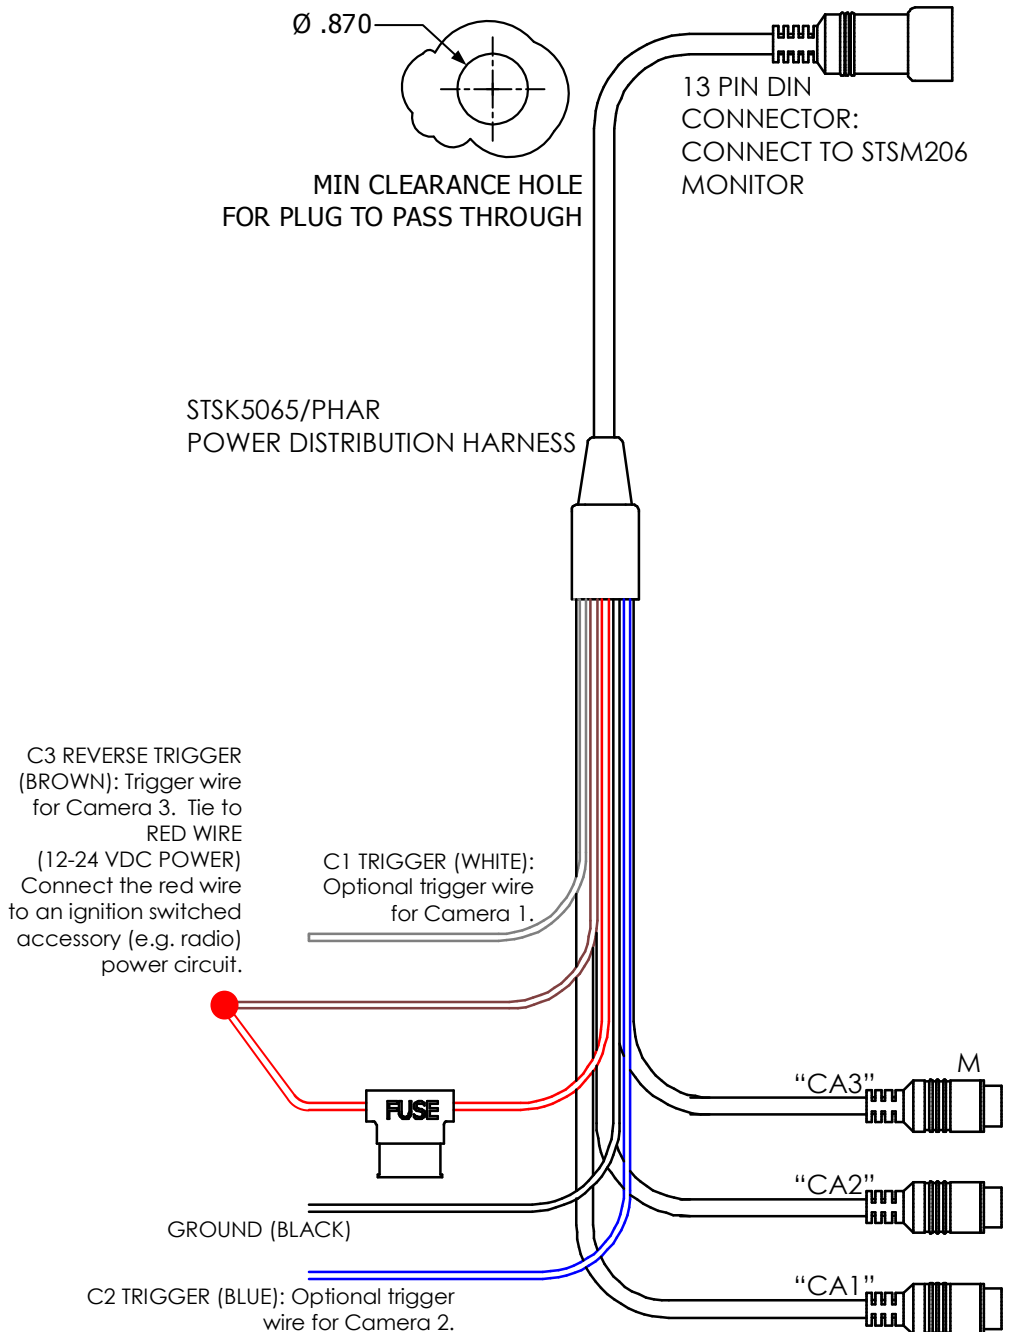
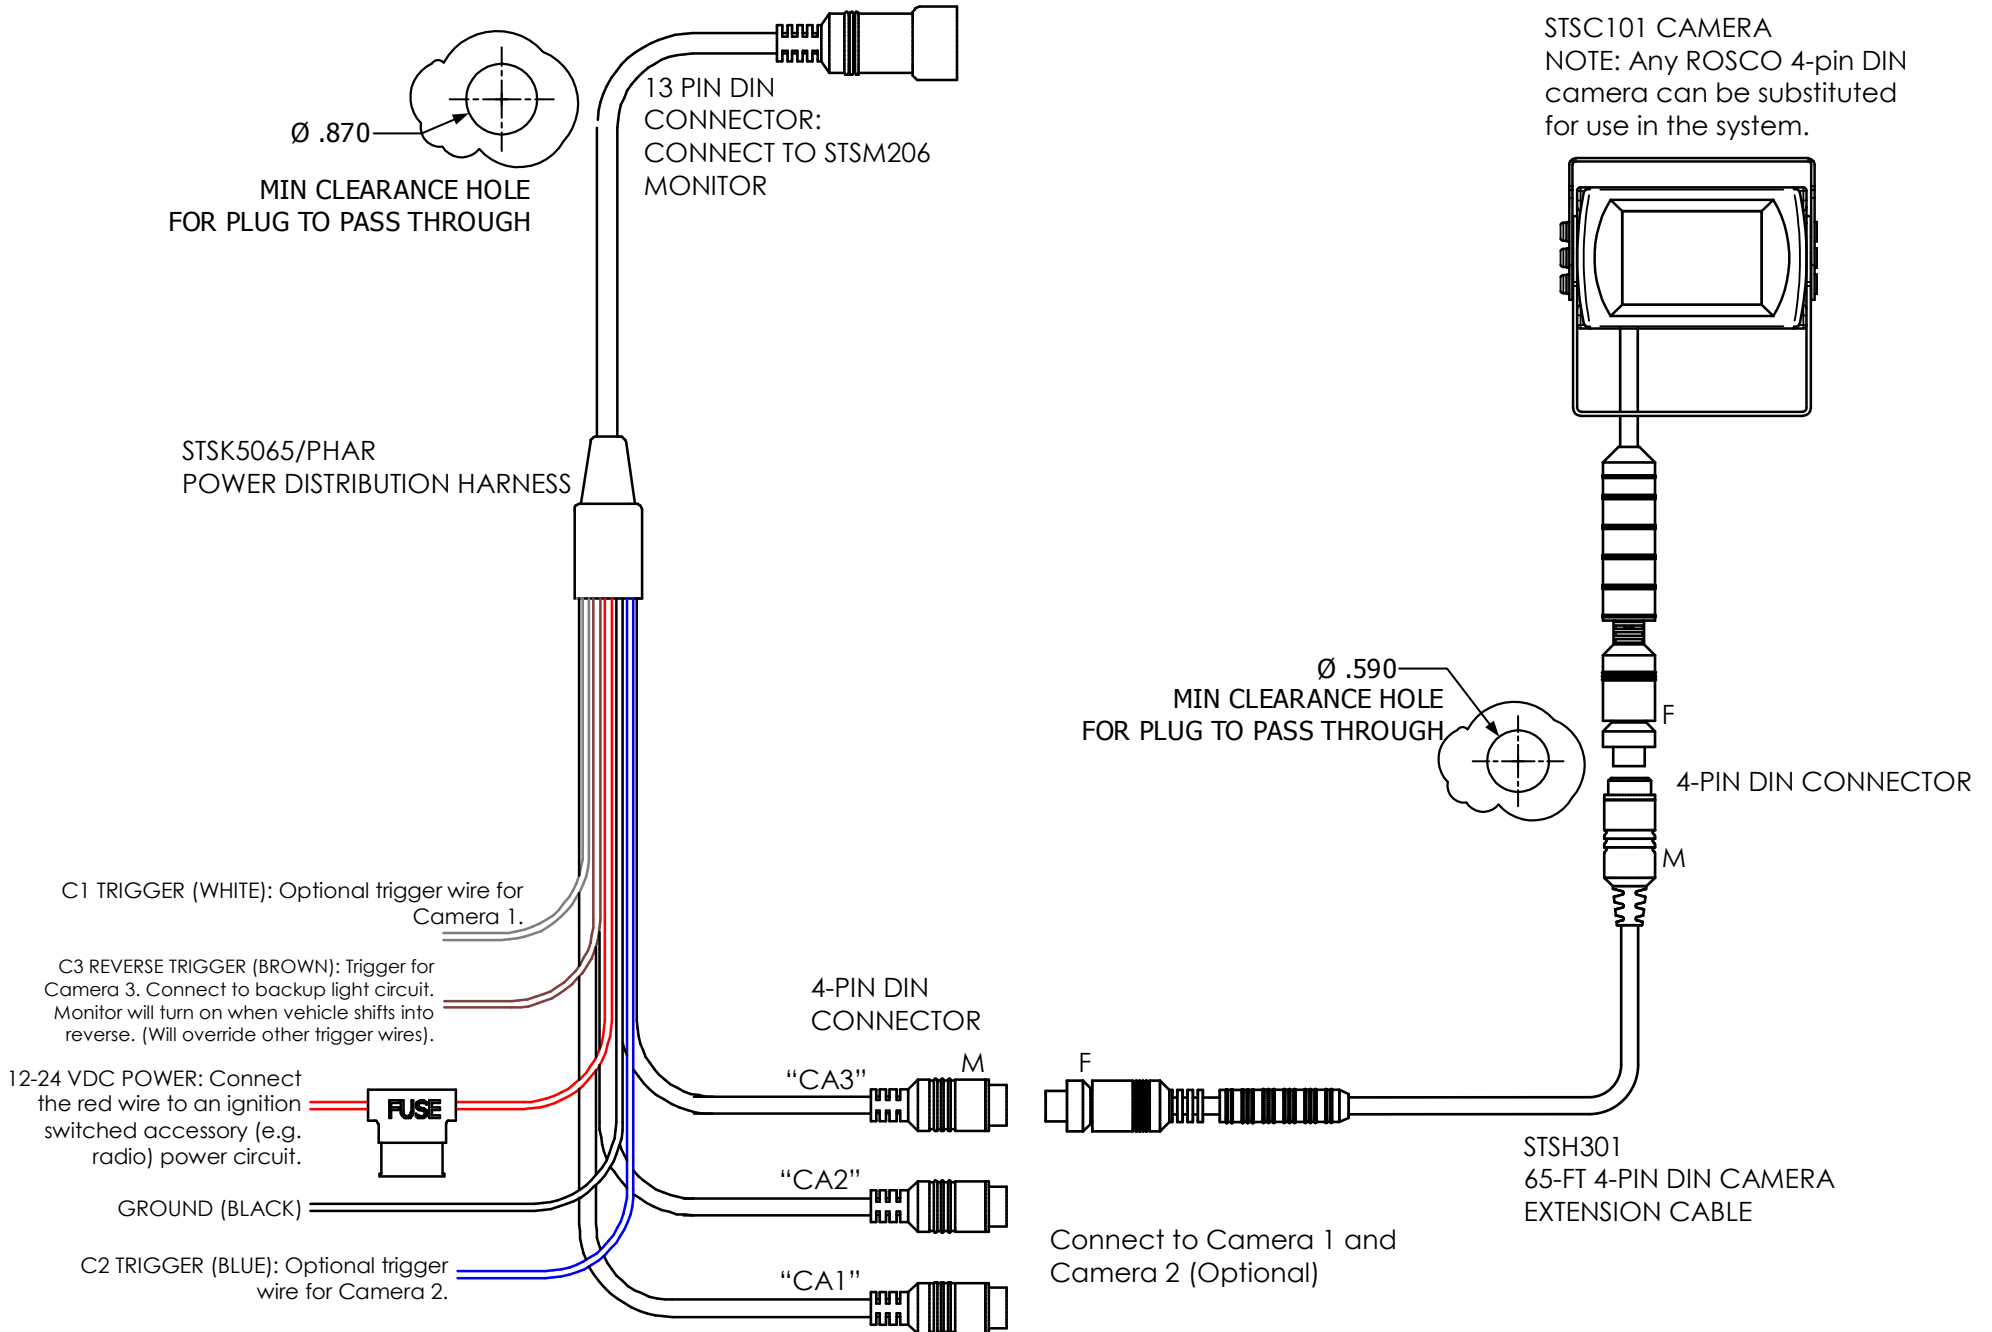

FIGURE 6: CABLE HARNESS CONNECTIONS
FIGURE 5: CABLE HARNESS CONNECTIONS FOR STANDARD BACKUP CAMERA USE
- Connect the 13-pin connector of the power harness cable to the 13-pin connector of the monitor cable. See FIGURE 5.
- Connect the red wire of the power harness (STSK5065/PHAR) to an ignition switched accessory (ex. radio) power source, and connect the black wire to chassis ground. See wiring diagram for connections (FIGURE 5).
- The BROWN wire is the REVERSE trigger wire. In a typical rear-view installations, connecting this wire to the vehicle's backup light circuit will activate the rear-view image whenever the vehicle shifts into reverse. This brown trigger wire will override any other trigger wire. See FIGURE 5. If the monitor needs to be always on, connect the brown wire to the same connection point of the red wire. See FIGURE 6 for this function.
- Connect the female connector of the extension cable to the connector of the "CA3" leg of the power harness cable (STSK5065/PHAR). See FIGURE 5.